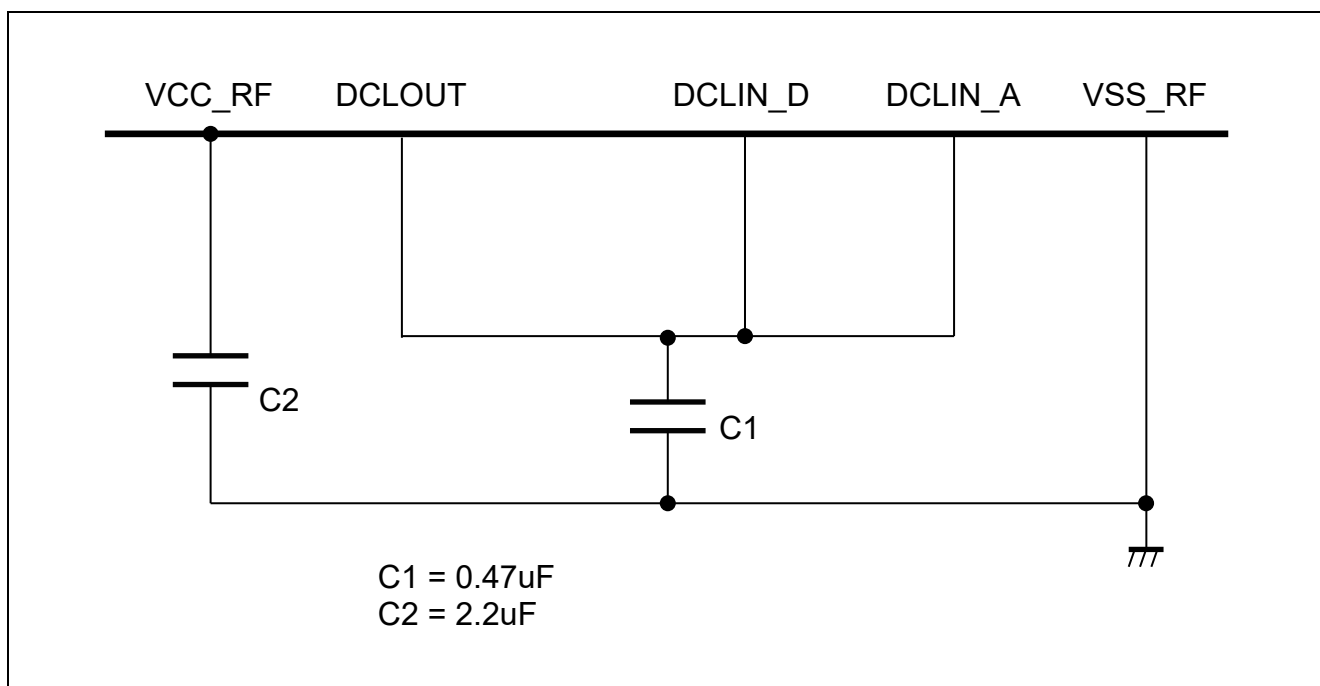
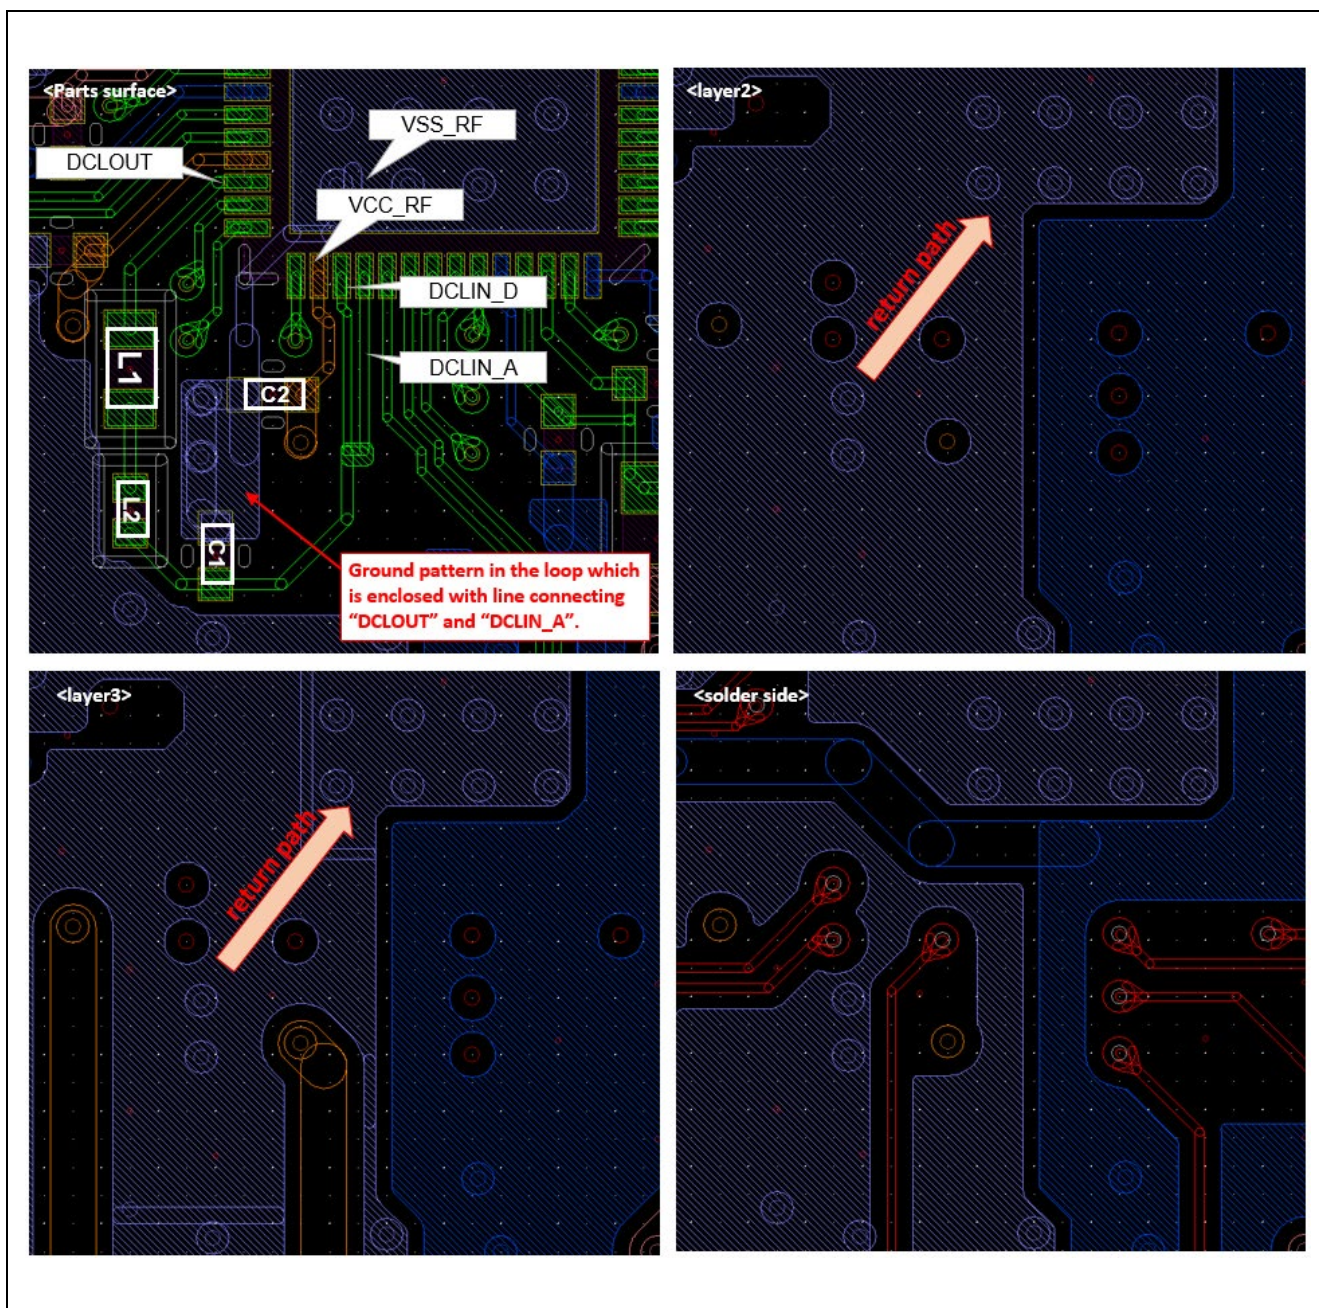

Figure 2-9 Example of the external circuit for Linear regulator mode
Figure 2-10 Example of the PCB pattern for Linear regulator mode
- Make the signal pattern from “DCLOUT” pin to “VSS_RF” through “C1” shorter and wider for low impedance connection. Place ground pattern in area which is enclosed with line connecting “DCLOUT” and “DCLIN_A”, as shown in "Figure 2-10 Example of the PCB pattern for Linear regulator mode". In addition, connect a capacitor “C1” and “VSS_RF” to this ground pattern.
- Ensure a return path in layer2 (additional layer3 if possible) from ground in the loop to "Exposed Die Pad (VSS_RF)", as shown in "Figure 2-10 Example of the PCB pattern for Linear regulator mode".
Figure 2-9 shows an example of the external circuit for Linear regulator mode, Figure 2-10 shows an example of the PCB pattern.